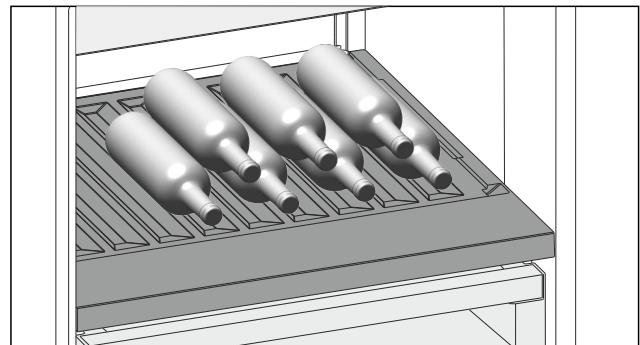

Fig. 116
- Place bottles in the back row with their bases against the back wall. (see Fig. 116)